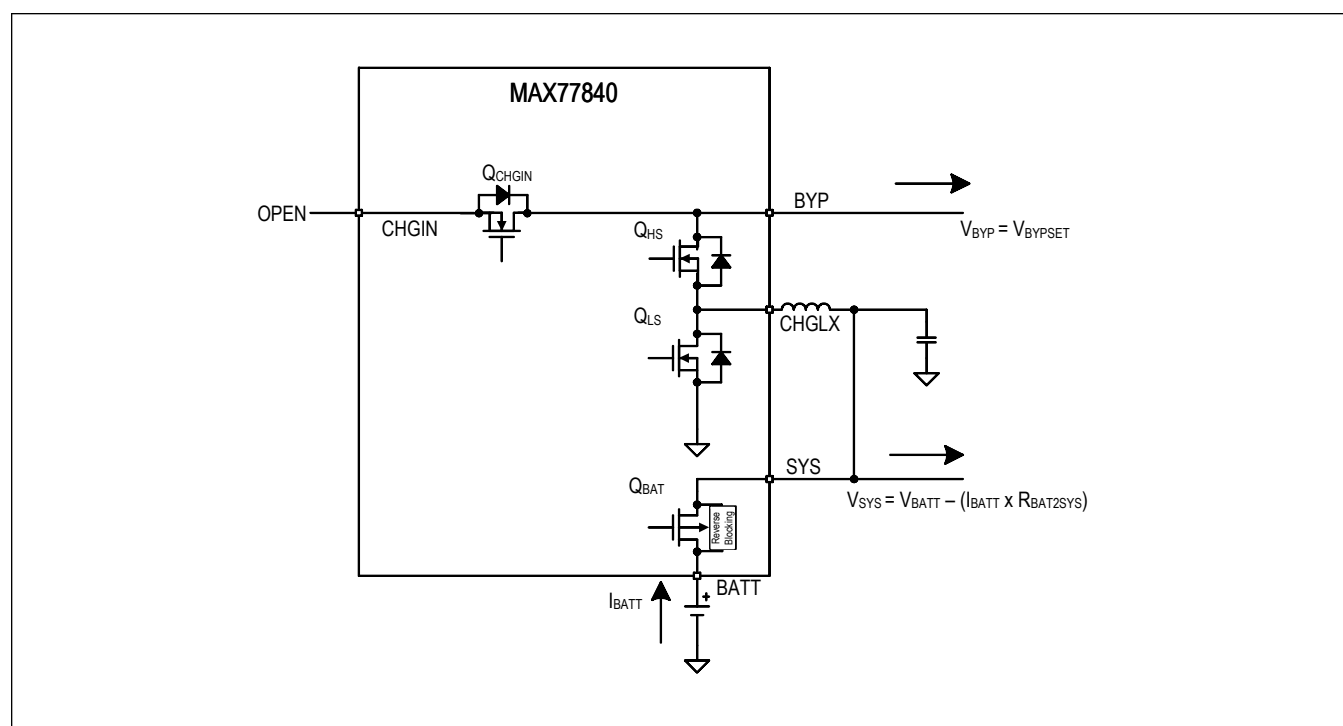

Figure 5. Battery-Boost
3. BATTERY-BOOST, MODE = 0x08: The adapter voltage is invalid, outside the input voltage operating range ( $Q_{CHGIN}$  = off). Battery is connected to power the SYS load ( $Q_{BAT}$  = on), and charger is operating in Boost mode (Boost = on), see Figure 5.